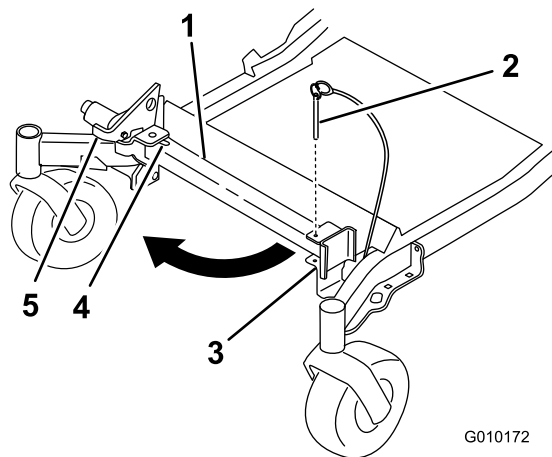
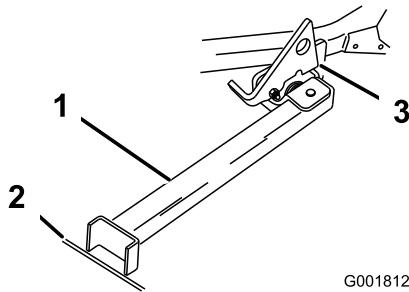

Figure 8
Figure 9
2. Remove the bracket pin (Figure 8).
3. Raise the latch. Swing the stand foot out front and slide stand toward machine, into the bottom of slot (Figure 8 and Figure 9).
- Set the foot of stand on the ground and rest the latch on the pivot tab (Figure 9).
- Note:** For best results, place the foot of stand into seams in sidewalks or into the turf (Figure 9).
- Drive onto the stand. Stop when the latch drops over the tab into the locked position (Figure 9). Once onto the stand, engage the parking brake and turn off the engine.
- Return the stand to its rest position (Figure 8).